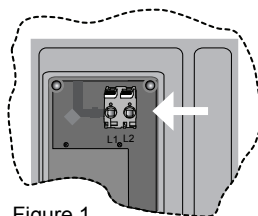

Figure 1
2. Locate the gray Terminal, towards the top of the controller, Figure 1.